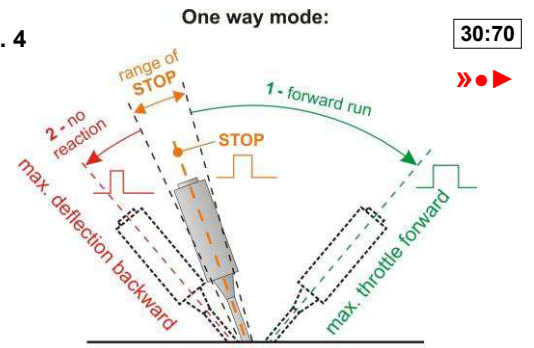

Fig. 5
- b) Aircraft bidirectional** (fig. 5, 6): This very special mode for aircrafts enabled, after landing, reverse motor(s) rotation direction and brake on very short runway (or run backward). Transmitter without lock of STOP position and/or with flying modes switch.
- f) Boat bidirectional** (fig. 5, 6): Bidirectional driving of boat, transition from one direction of rotation to opposite is instantaneous. Transmitter with lock of STOP position.
With this special mode is possible reverse motor rotation direction (i.e. also direction of thrust) and is possible very strongly brake (after landing) – fig. 5 and 6 on the page 8. It is possible use transmitter with Neutral throttle position. More safety is using transmitter without Neutral throttle position with change of flying modes by switch (as for helicopters).